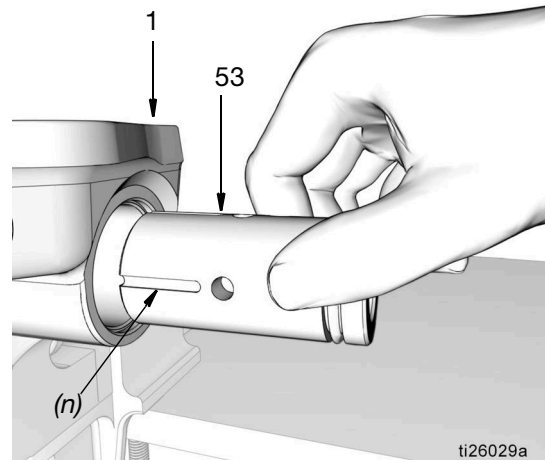

FIG. 42
- c. Install the pump element sleeve (53) in the pump base (1). To determine the correct installation orientation, refer to FIG. 42.